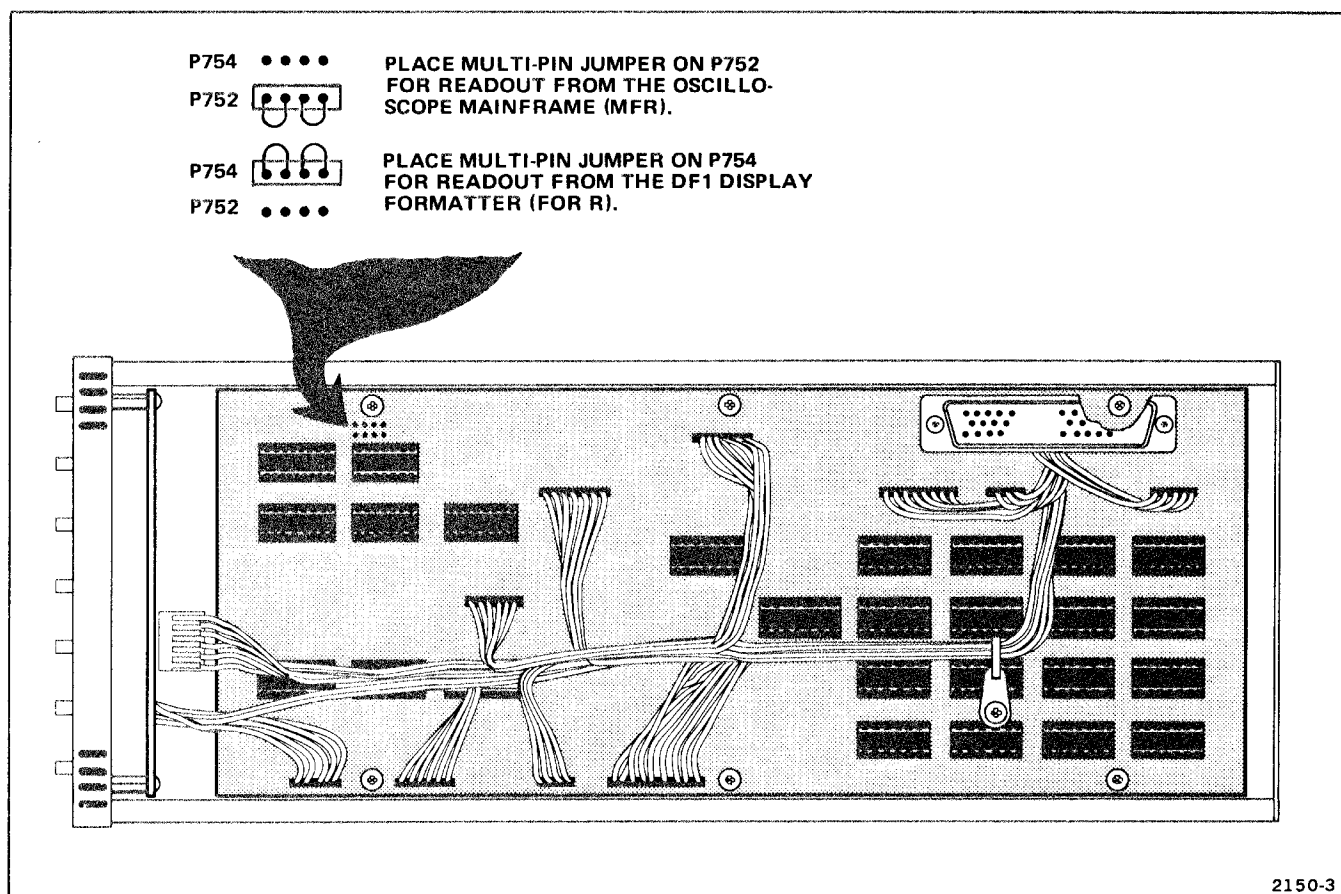

Figure 4-3. Location of readout source multi-pin jumper.
- a. Connect the DF1 Readout Source multi-pin jumper (internal) to display the formatter readout (FOR R). Refer to Figure 4-3. Assure that the System Test Fixture ABA indicator light is on. Turn off the oscilloscope power momentarily. This action will load WOM RAM with random data for future display. Disregard the actual data that is displayed in the following checks. It's only purpose is to provide a method to check the mode of operation.
g. Connect the DF1 Readout Source multi-pin jumper (internal) to display mainframe readout (MFR). Refer to Figure 4-3.
a. Connect the DF1 Readout Source multi-pin jumper (internal) to display the mainframe readout (MFR). Refer to Figure 4-3.
b. Set the System Test Fixture ADDRESS switches to 0098, and DATA switch number 0 to HI (1).
d. Set the System Test Fixture ADDRESS switches to 00A8. Set DATA switches: number 3 to HI (1), number 1 to HI (1), and number 0 to LO (0).
- a. Connect the DF1 Readout Source multi-pin jumper (internal) to display the mainframe readout (MFR). Refer to Figure 4-3.
- b. Set the System Test Fixture ADDRESS switches to 0098, and DATA switch number 0 to HI (1).
- d. Set the System Test Fixture ADDRESS switches to 00A8. Set the DATA switches: number 3 to HI (1), number 1 to HI (1), and number 0 to LO (0).